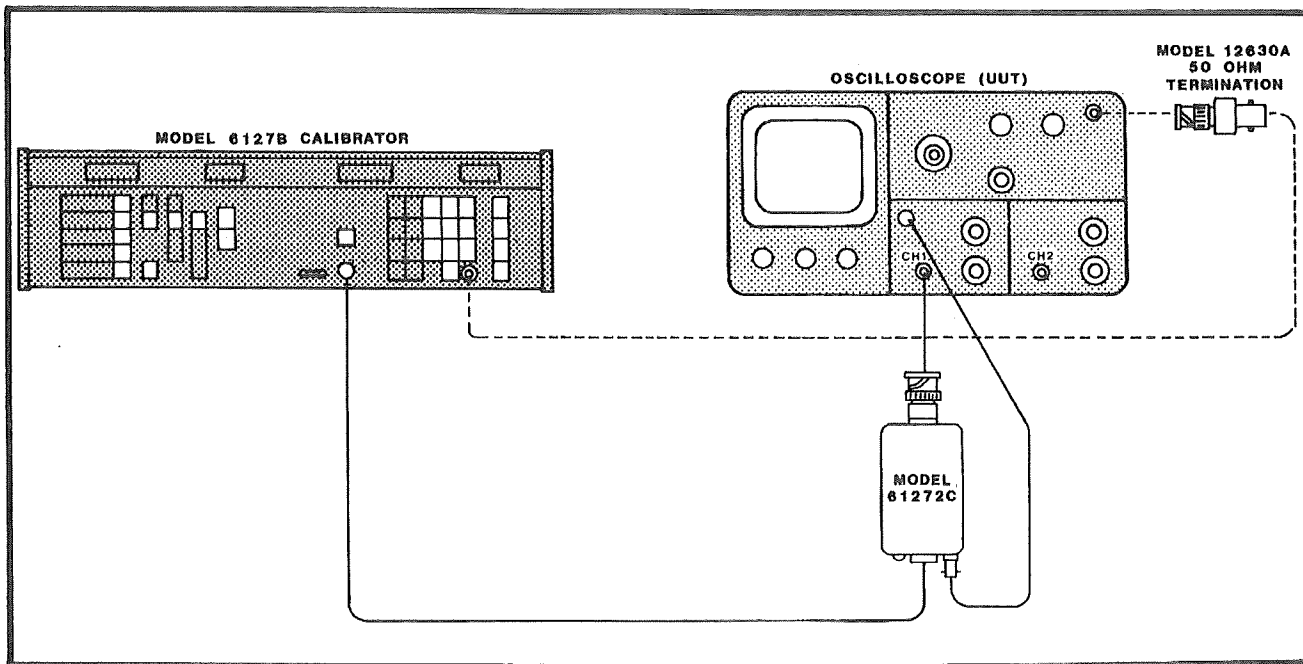

Figure 3-8. Calibrator Mode, Equipment Set-Up
a. Connect the equipment as shown in Figure 3-8.